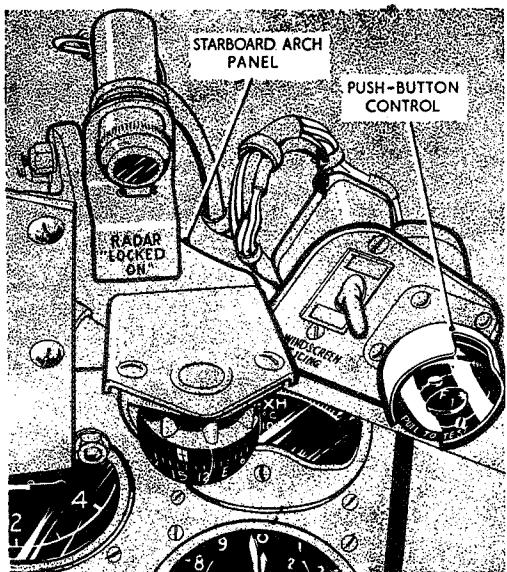

Fig. 5. Fire extinguisher manual control
**Fire extinguisher manual control (fig. 5)**